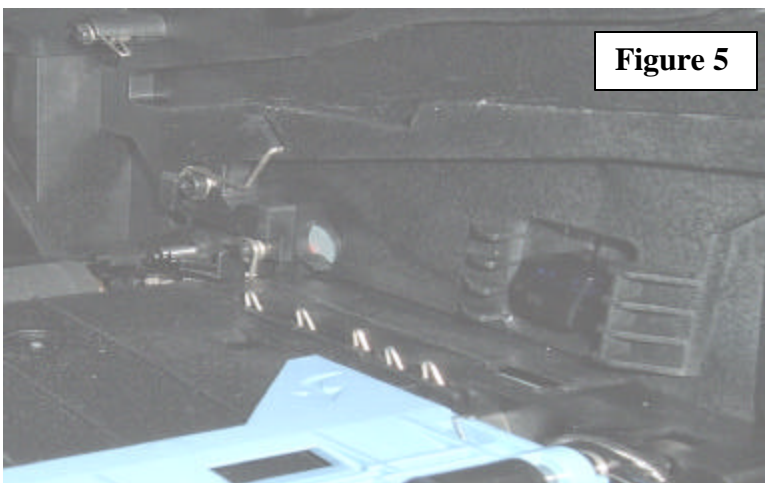

Figure 5
13. Examine the 6 High Volt Power Supply contacts (Figure 5) on the right side.